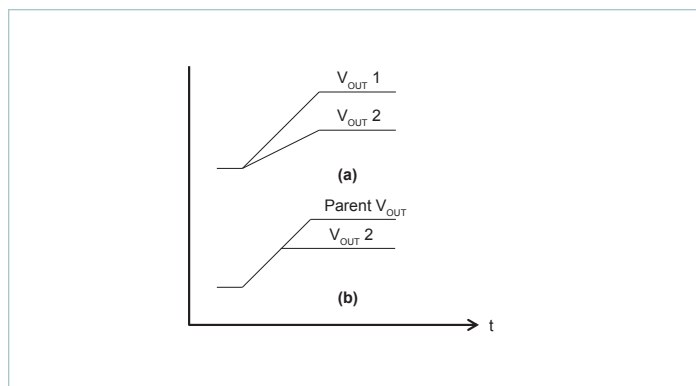

Figure 88 — PI358x-00 tracking responses
There is typically either proportional or direct tracking implemented within a design. For proportional tracking between several regulators at start up, simply connect all PI358x-00 device TRK pins together. This type of tracking will force all connected regulators to start up and reach regulation at the same time (see Figure 88(a)).
For Direct Tracking, choose the PI358x-00 with the highest output voltage as the parent and connect the parent to the TRK pin of the other PI358x-00 regulators through a divider (Figure 88) with the same ratio as the child's feedback divider.
All connected PI358x-00 regulator soft-start slopes will track with this method. Direct tracking timing is demonstrated in Figure 88(b). All tracking regulators should have their Enable (EN) pins connected together to work properly.